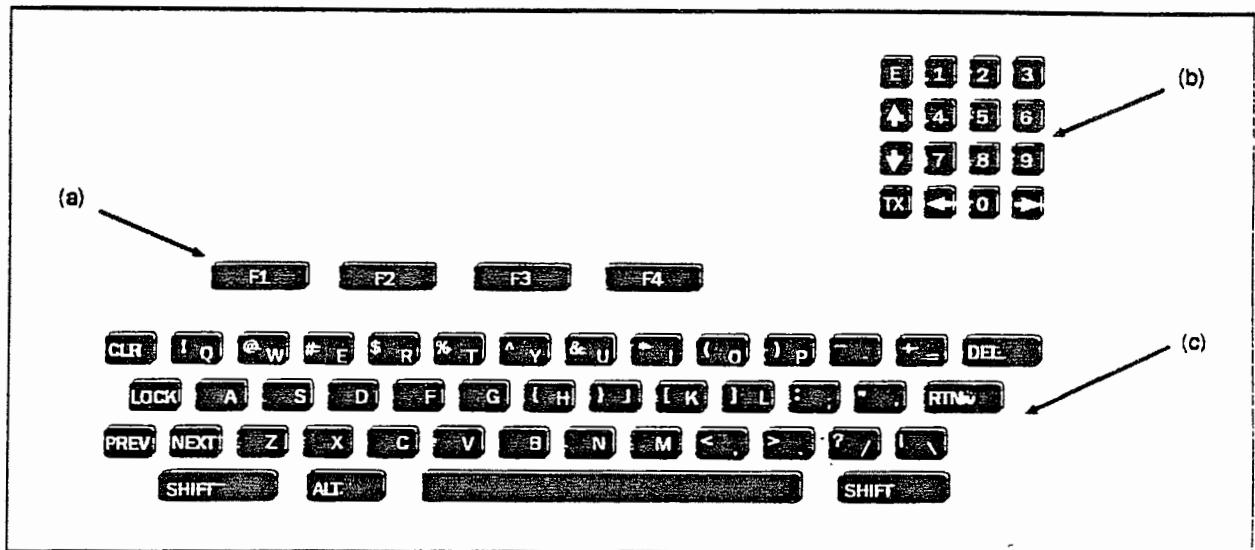

Figure 3 The Keyboard Layout
The terminal keyboard is located on the bottom half of the terminal (e, Figure 2). The keyboard allows you to enter information into the terminal. The keyboard consists of 64 keys as illustrated in Figure 3.
- 1) the special operation keys (a, Figure 3) - selects special features of the terminal depending on the information currently displayed,
- 3) the data entry keys (c, Figure 3) - used like a standard typewriter keyboard; when a key is pressed the character is echoed or "entered" in one of the character blocks on the display.